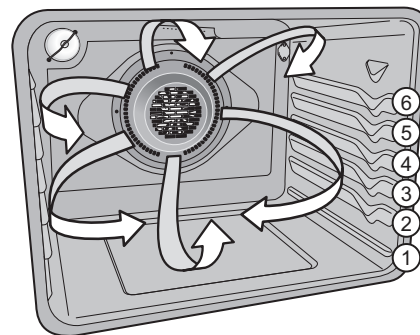

Figure 26: Oven rack positions
- Always place food in center of the oven on rack position 4 (Figure 26).